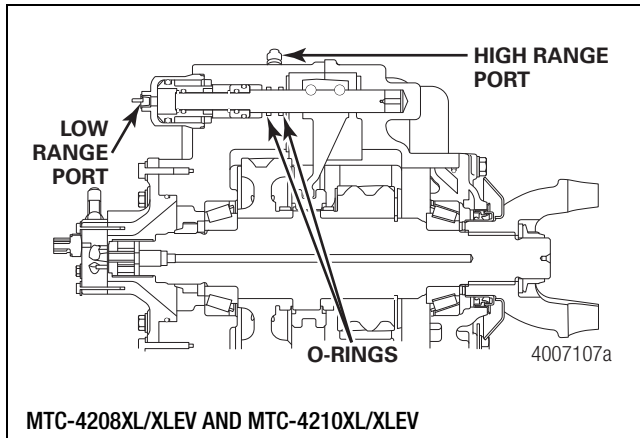

Figure 6.31
1. Grease all O-ring seals. Use a light coat of lithium-based grease, Meritor specification O-668. Refer to Figure 6.31 for shifter component arrangement.